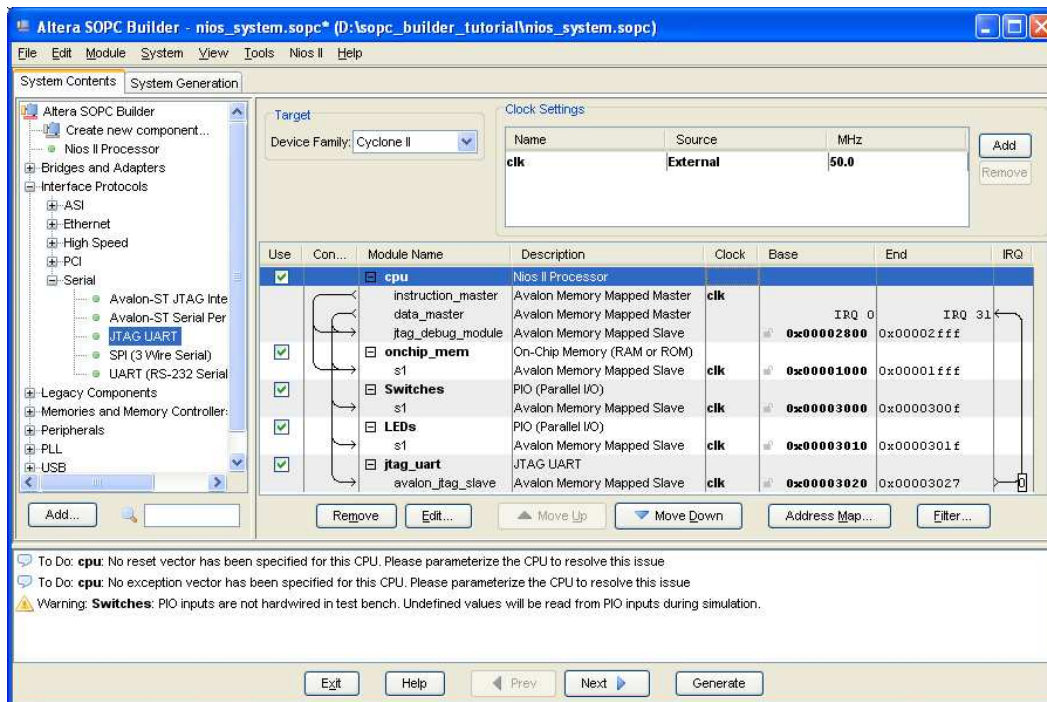

Figure 14. The final specification.
11. The base and end addresses of the various components in the designed system can be assigned by the user, but they can also be assigned automatically by the SOPC Builder. We will choose the latter possibility. So, select the command (using the menus at the top of the SOPC Builder window) **System > Auto-Assign Base Addresses**, which produces the assignment shown in Figure 14.
A parallel I/O interface generated by the SOPC Builder is accessible by means of registers in the interface. Depending on how the PIO is configured, there may be as many as four registers. One of these registers is called the Data register. In a PIO configured as an input interface, the data read from the Data register is the data currently present on the PIO input lines. In a PIO configured as an output interface, the data written (by the Nios II processor) into the Data register drives the PIO output lines. If a PIO is configured as a bidirectional interface, then the PIO inputs and outputs use the same physical lines. In this case there is a Data Direction register included, which determines the direction of the input/output transfer. In our unidirectional PIOs, it is only necessary to have the Data register. The addresses assigned by the SOPC Builder are 0x00003000 for the Data register in the PIO called Switches and 0x00003010 for the Data register in the PIO called LEDs, as indicated in Figure 14.
You can find a full description of the PIO interface by opening the SOPC Builder window in Figure 14 and right-clicking on the module name of a PIO (either Switches or LEDs). Then, in the pop-up box select **Data Sheet** to open the document *PIO Core with Avalon Interface* which gives a full description of the interface. To use this facility you need to be connected to the Internet.